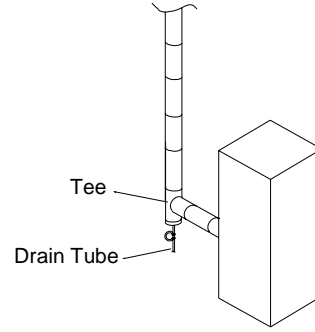

Fig. 3A (Tee w/ Drain Cover & Tube)
- A SGV or DGV In-Line Drain Section, Tee with a separate Tee Cover Drain is strongly recommended. Install this drain fitting as close to the appliance flue collar as possible (See Fig. 3A).
- Use a Tee to transition from horizontal to vertical and attach the Drain Tee Cover to the appropriate leg of the tee (See Fig 3A).